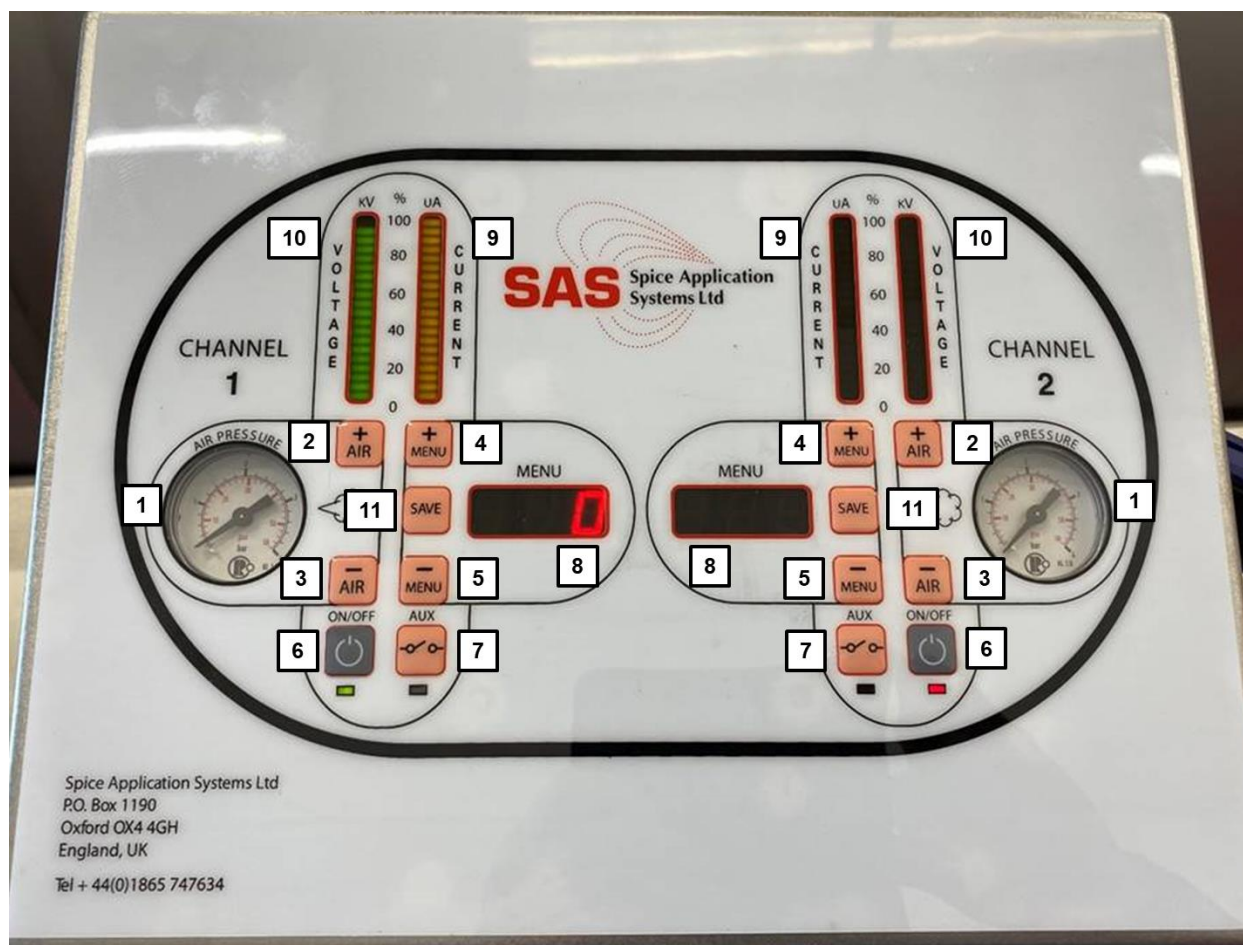

Fig 8
(see Page 17 - Fig 8 for reference)
3. To turn on the electrostatic effect, press the Local ON/OFF button on the panel facia (see page 17 - Fig 8, position 6). The LED light below the button will turn from Red to Green and the Kilovolt and Microamp dials will be illuminated.